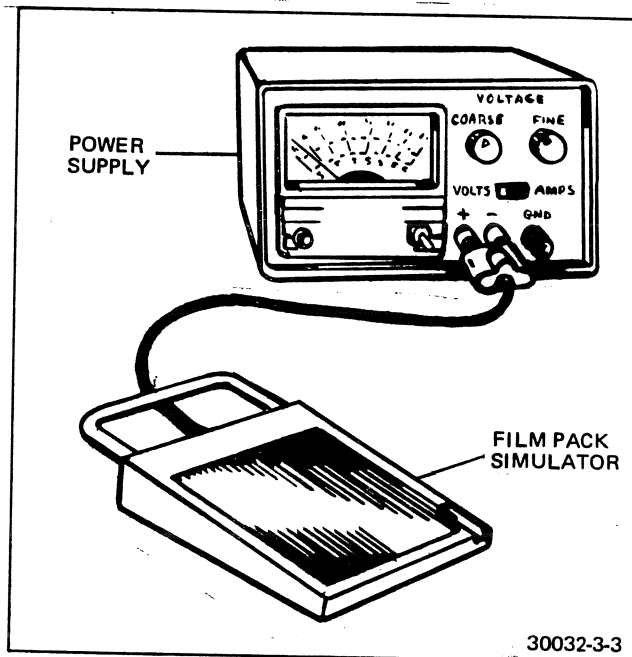

FIGURE 3-3 FILM PACK SIMULATOR AND POWER SUPPLY
- d. Further tests requiring the battery can be made with the film pack simulator (Figure 3-3). The film pack simulator, part no. 11718, consists of two items: a 6 volt, modified Hewlett Packard power supply, part no. B-11775 and the film pack simulator, part no. C-11774. The system provides power to simulate normal operation of the camera.